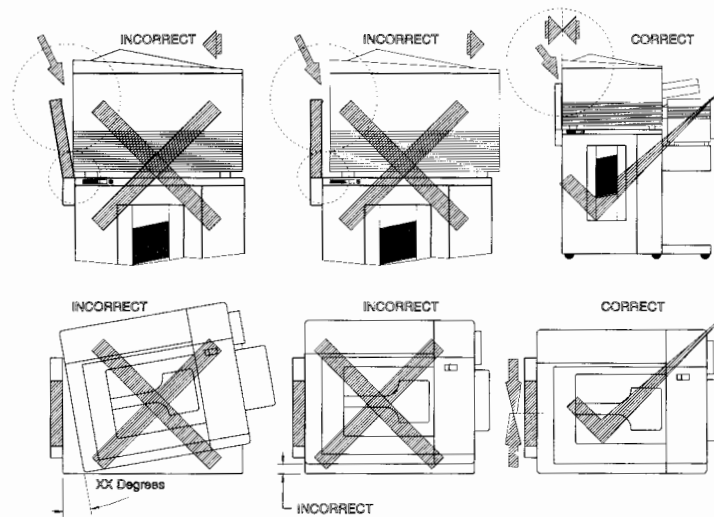

Figure 2-2. Aligning the Printer and Stacker
2. The stacker's transport module is set squarely against the printer's back side so that there is no uneven gap or skew between the transport module cover and the printer as shown in Figure 2-2.